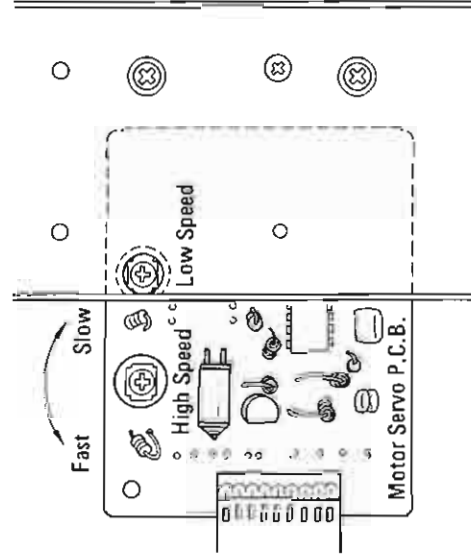

Fig. 5-12
3. Play the middle of the test tape and adjust the **HIGH** speed trimmer resistor until the frequency counter indicates a reading of 3000 Hz. See Fig. 5-12. (**CAUTION:** Use an insulated screwdriver to prevent shorting.)